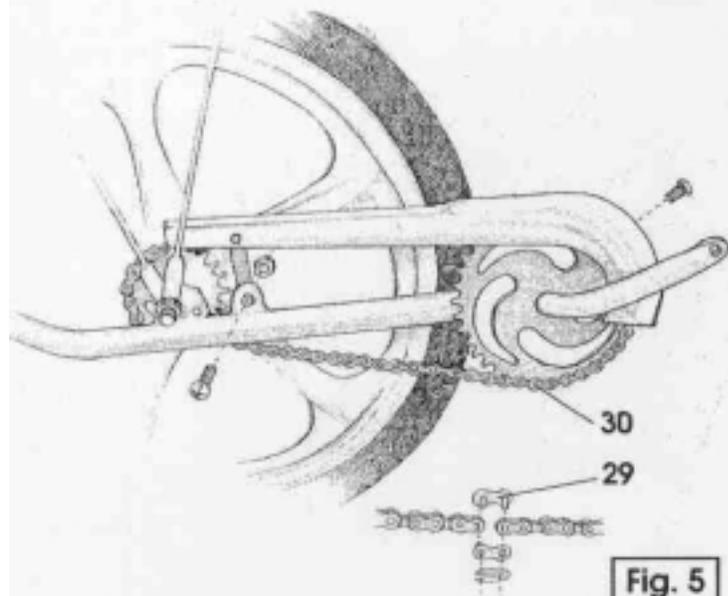

Fig. 5
Place chain (30) around sprockets and join with connecting link (29) (see figure 5). Slide wheel assembly back until chain is tight (approximately 3/4" up and down movement is permissible). While holding wheel assembly centered between frame tubes, gradually tighten axle nuts alternately on each side. Tighten brake strap screw.